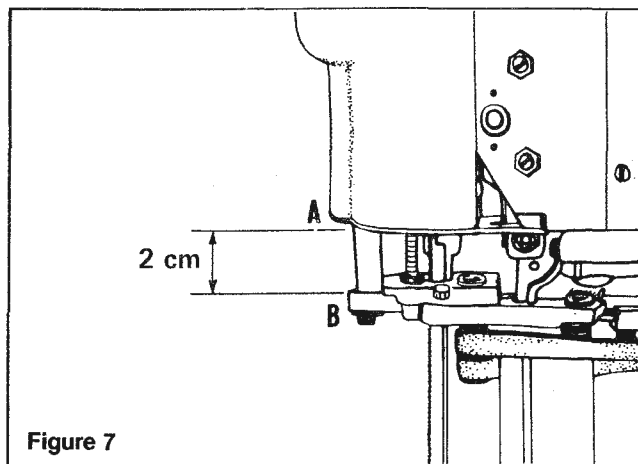

Figure 7
(Figure 7)
- Fig. 7: Check clearance between lower Cover "A" and top of Gear Case "B." Maximum distance is $25/32$ " (2 cm) when Brake is properly installed. If distance is greater, reset Brake as Presserfoot Leg A403 will not operate. FlexiBands A386 must not touch Blade A574.